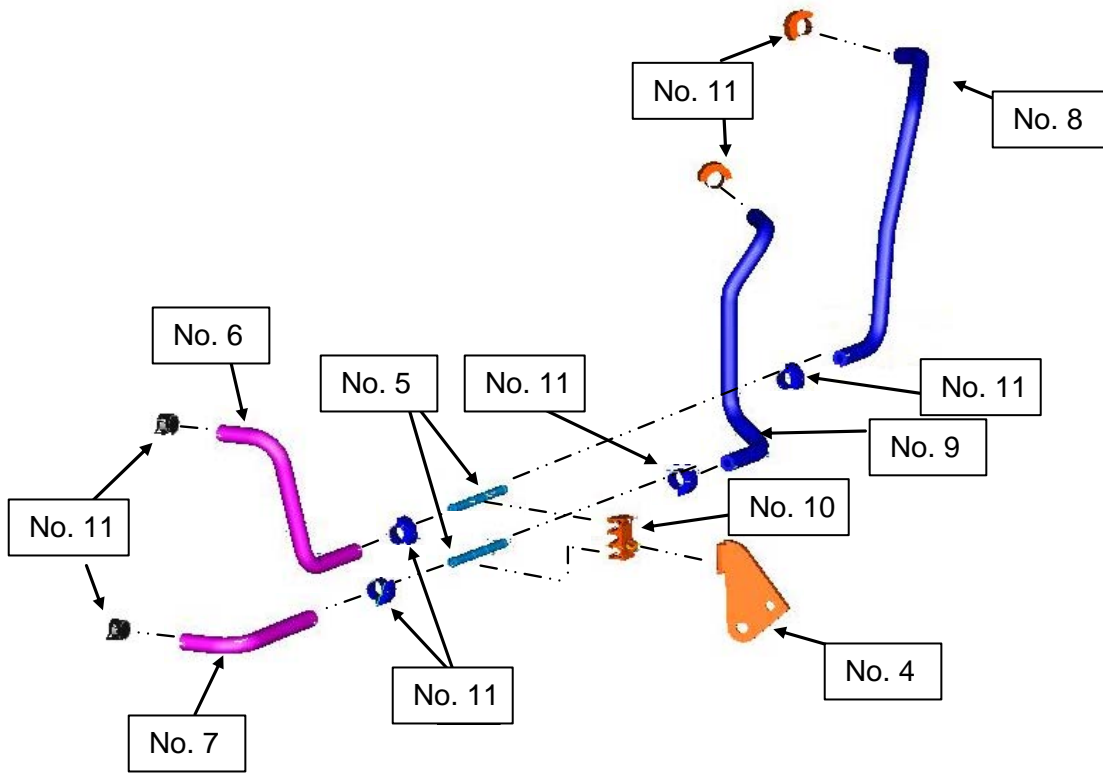
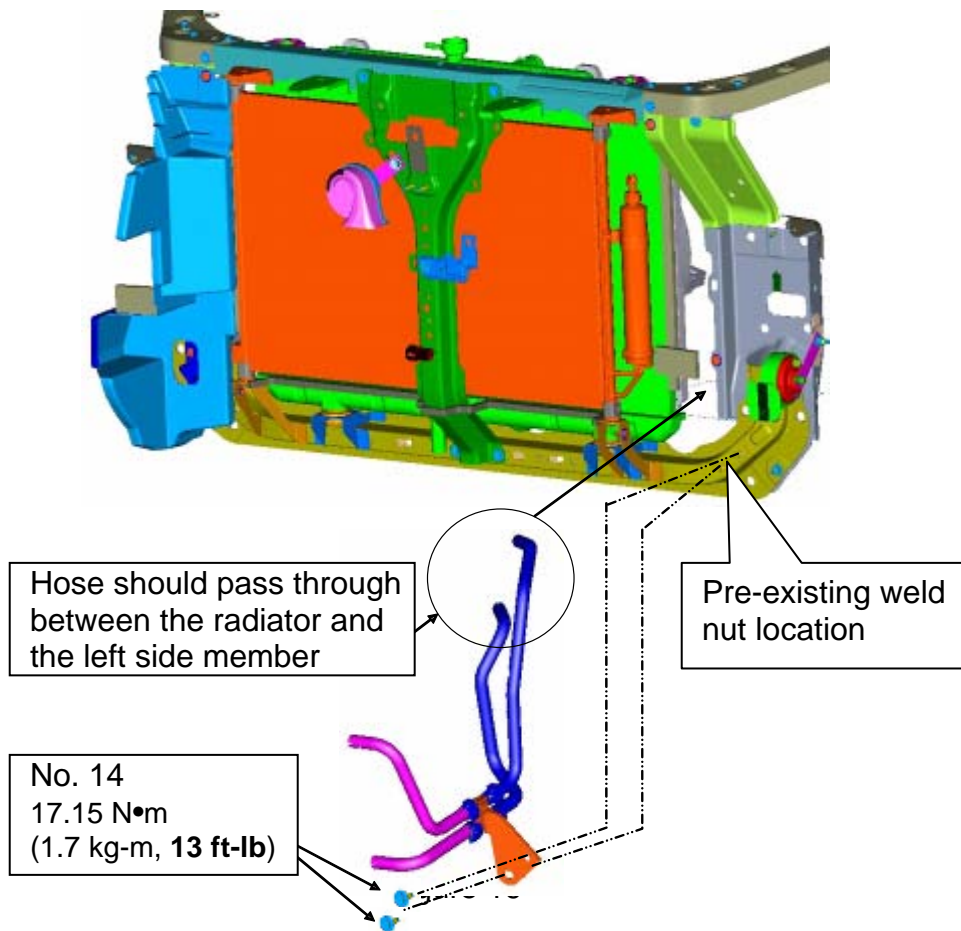

Figure 15
Figure 19
Figure 15 illustrates the COOLER ASSY-AUTO TRANS Hose Assembly referenced in steps 1-3 on page 9.
NOTE: Refer to Figure 15 on page 8 for steps 1-3 below.
NOTE: Refer to Figure 15 on page 8 and Figure 19 below for steps 1-3 below.
- a. Pass the hoses shown in blue (Figure 19) between the radiator and the bulkhead.
- b. Install BRKT ASSY-O/COOLER, SIDE (No. 4) with two bolts (No. 14) to the pre-existing weld nuts and torque with the specification provided in Figure 19.
2. Place 2 new CLAMP-HOSE (spring clamp, No. 11) onto the hoses and install the HOSE (No. 6/7, Figure 15) onto COOLER ASSY-AUTO TRANS, OIL (No. 1) with the white paint marks facing toward front of the vehicle (Figure 20).